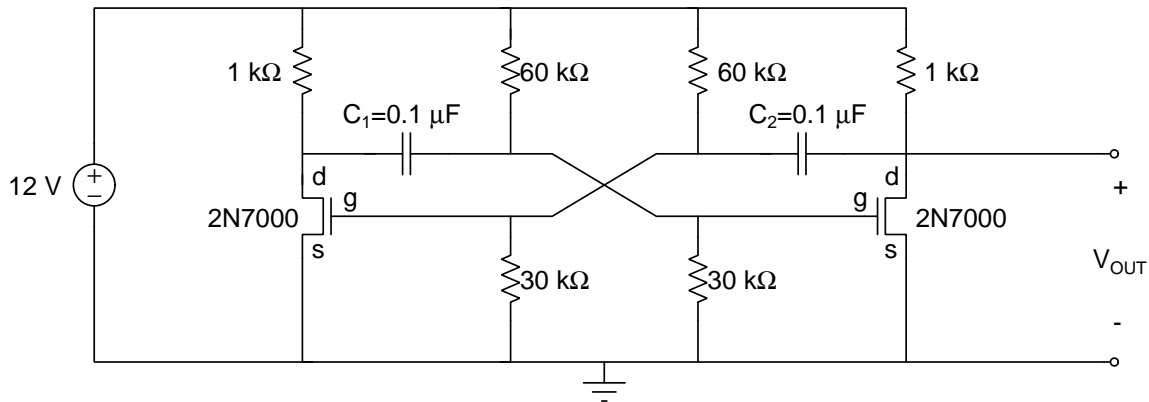
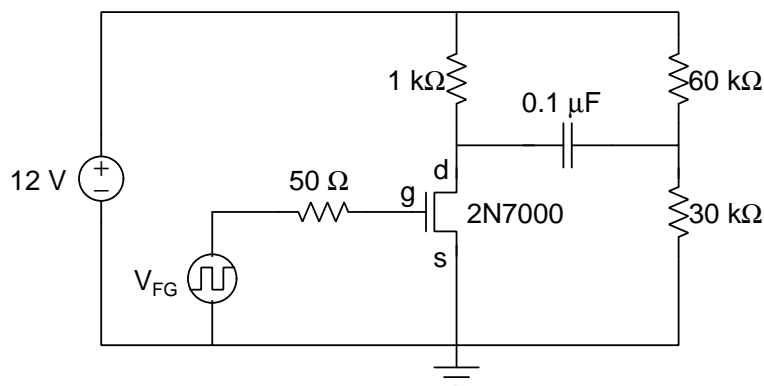

Figure 2: Astable multivibrator circuit of Figure 1 with 2N7000 transistors used as voltage-controlled switches.
Figure 3: Multivibrator half-circuit.
Simulate the operation of the astable multivibrator circuit using the 2N7000 NMOS transistors to implement the voltage-controlled switches, as shown in **Figure 2**. In NGspice, use the **2N7000_mod** symbol for the transistor model.
1. Build the multivibrator half-circuit shown in Figure 3.
2. Set the function generator (FG) to produce a triangular wave with a voltage swing from 0 to 5 volts, and a frequency equal to that found in step 5 of the Pre-Lab. Use the scope to record the voltage at the gate (G) and the drain (D) of the 2N7000 transistor. By examining when the two voltage traces cross, determine the gate voltage that causes the transistor to switch between on and off. Try and find two 2N7000 transistors that have approximately the same turn-on characteristics.
3. Build the full astable multivibrator circuit shown in Figure 2. This circuit should oscillate when power is supplied.